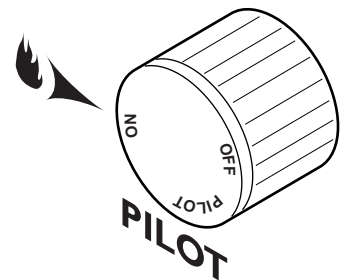

Figure 54 - On Position
Depress and turn the knob counterclockwise  to the “ON” position. *See Figure 54.* It will take less than four (4) seconds for the burner to ignite.